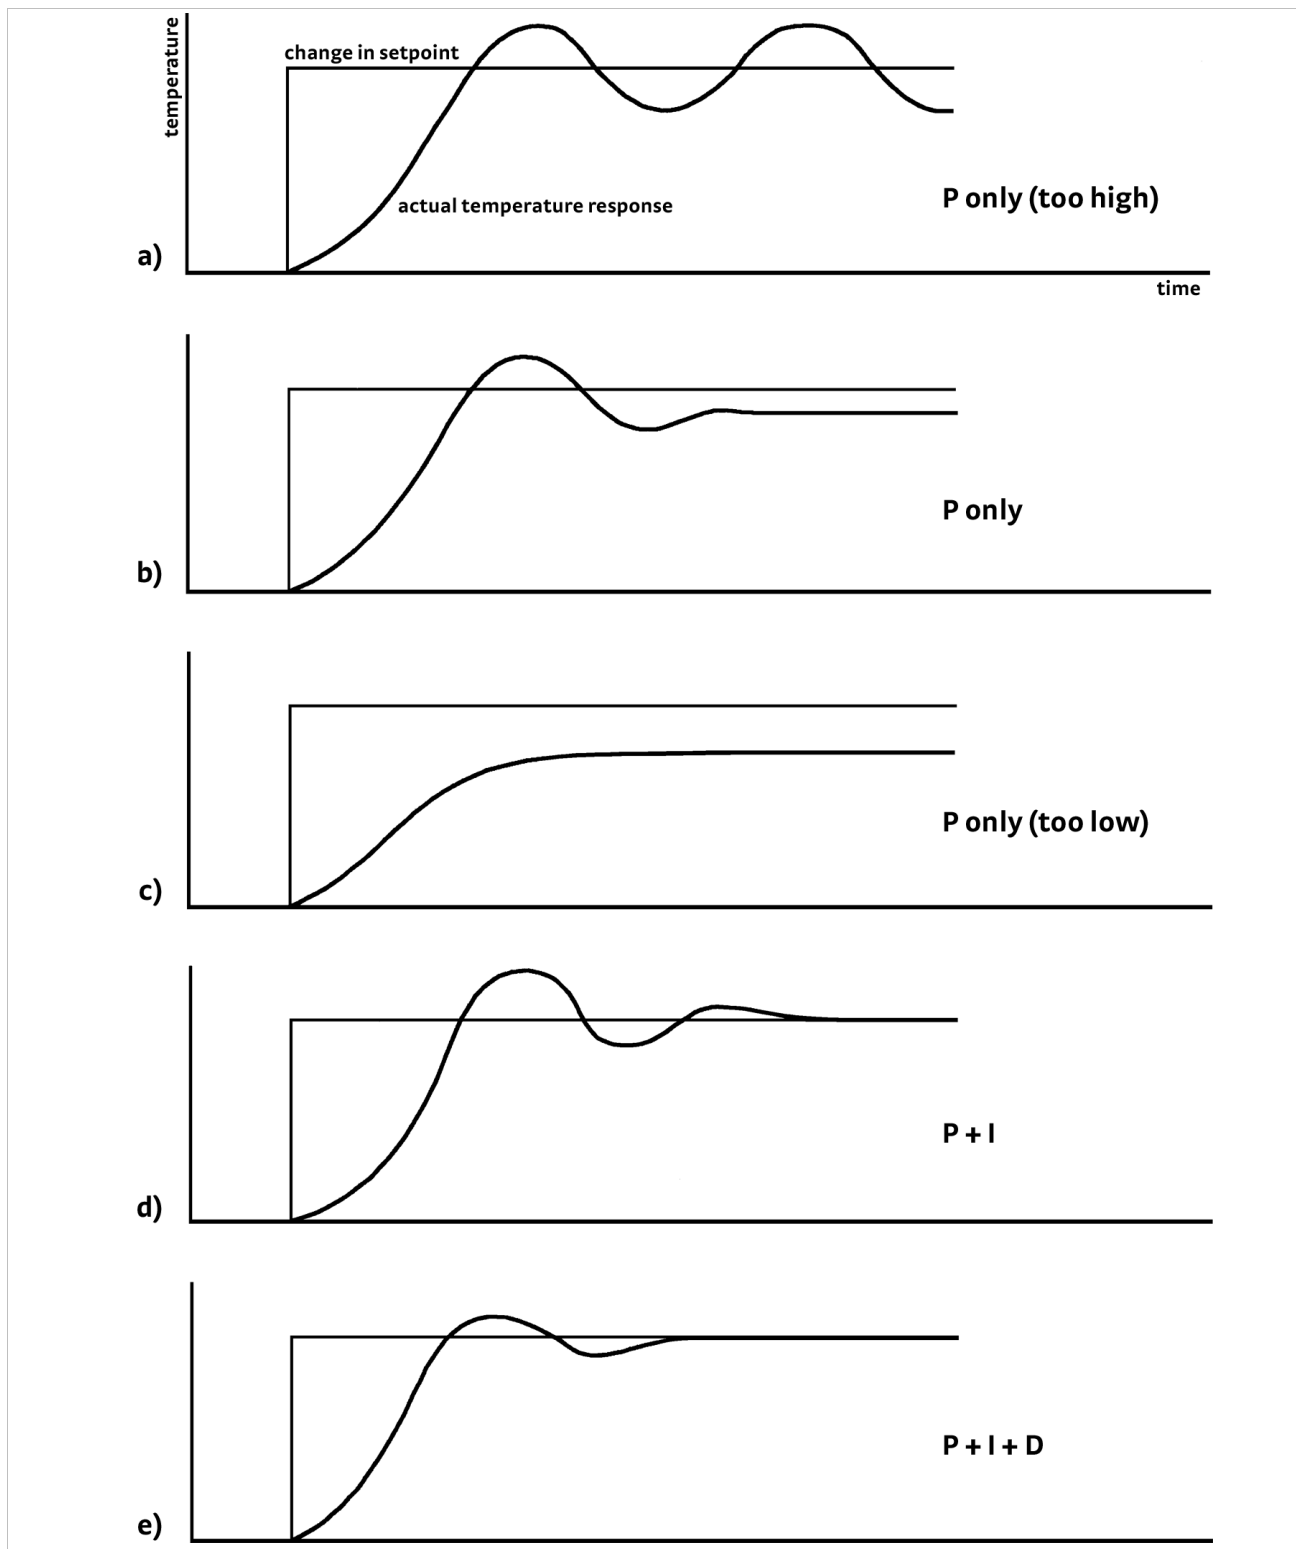

FIGURE 2-2 Examples of PID control
For closed-loop operation, the Model 335 temperature controller uses an algorithm called PID control. The control equation for the PID algorithm has three variable terms: proportional (P), integral (I), and derivative (D). See FIGURE 2-2. Changing these variables for best control of a system is called tuning. The PID equation in the Model 335 is:
8. Repeat step 7 until you reach a setting in which the load temperature begins a sustained and predictable oscillation, rising and falling in a consistent period of time. See FIGURE 2-2(a).
11. Reduce the proportional setting by half. The appropriate proportional setting is one half of the value required for sustained oscillation in step 8. See FIGURE 2-2(b). Continue to section 2.8.3.
When the proportional setting is chosen and the integral is set to 0 (off), the Model 335 controls the load temperature below the setpoint. Setting the integral allows the Model 335 control algorithm to gradually eliminate the difference in temperature by integrating the error over time. See FIGURE 2-2(d). An integral setting that is too low causes the load to take too long to reach the setpoint. An integral setting that is too high creates instability and can cause the load temperature to oscillate.
If an experiment requires frequent changes in setpoint, derivative should be considered. See FIGURE 2-2(e). A derivative setting of 0, off, is recommended when the control system is seldom changed and data is taken when the load is at steady state.